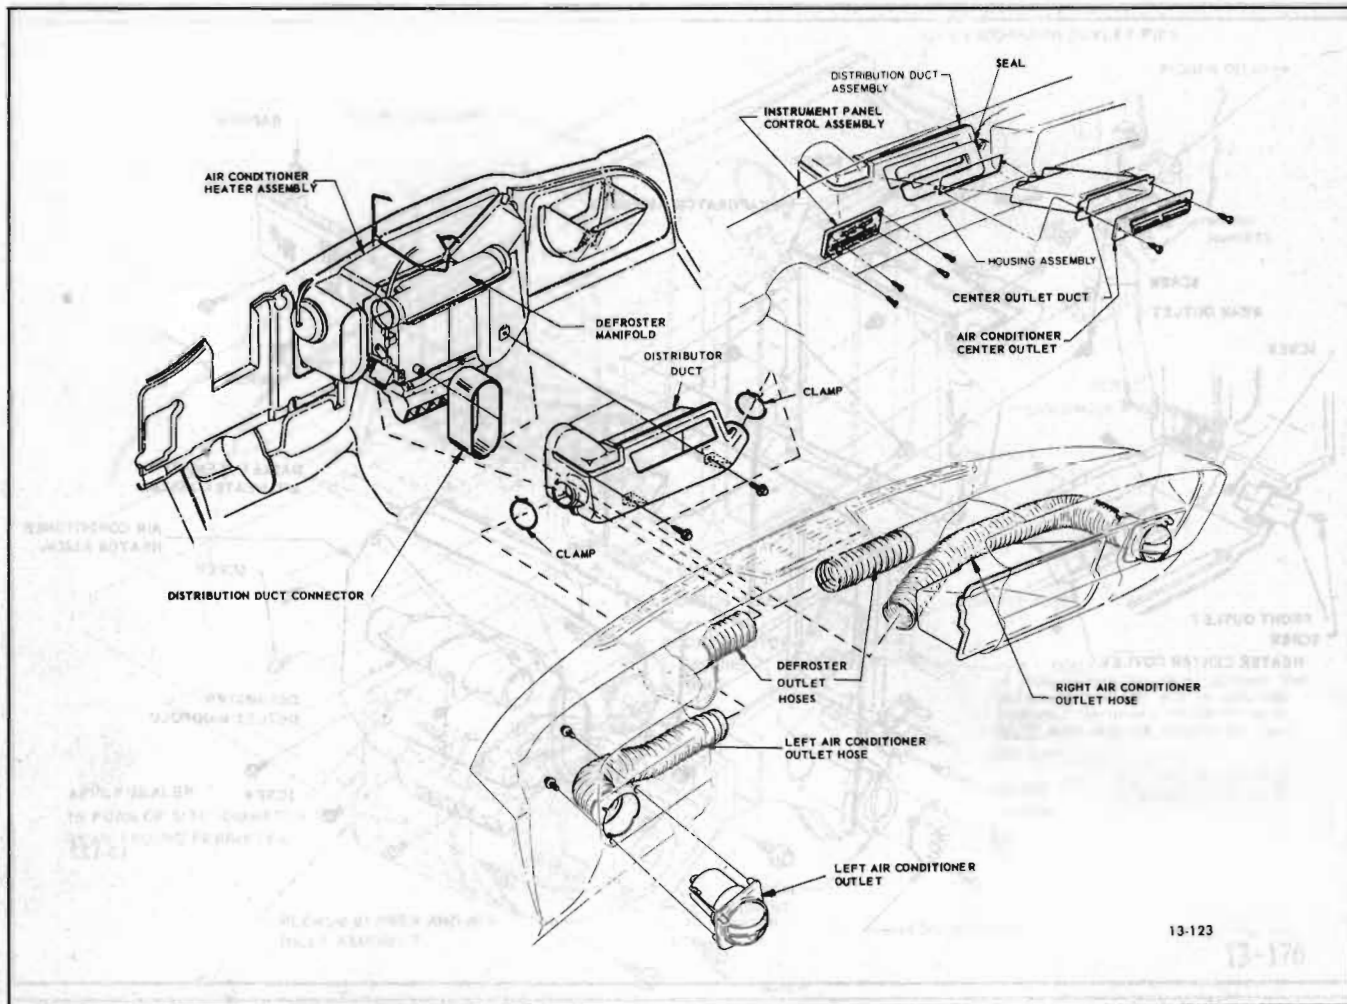

Figure 13-122—Distribution Duct Assembly (45-46-48000 Series)
off center outlet (see Figure 13-122). Pull out center outlet duct.
6. Remove two screws from defroster manifold (see Figure 13-122), and lower as far as possible. Disconnect one of defroster outlet hoses and position manifold out of way.
1. Remove two screws securing air conditioner center outlet to instrument panel and remove center outlet. Pull out center outlet duct (see Figure 13-122).